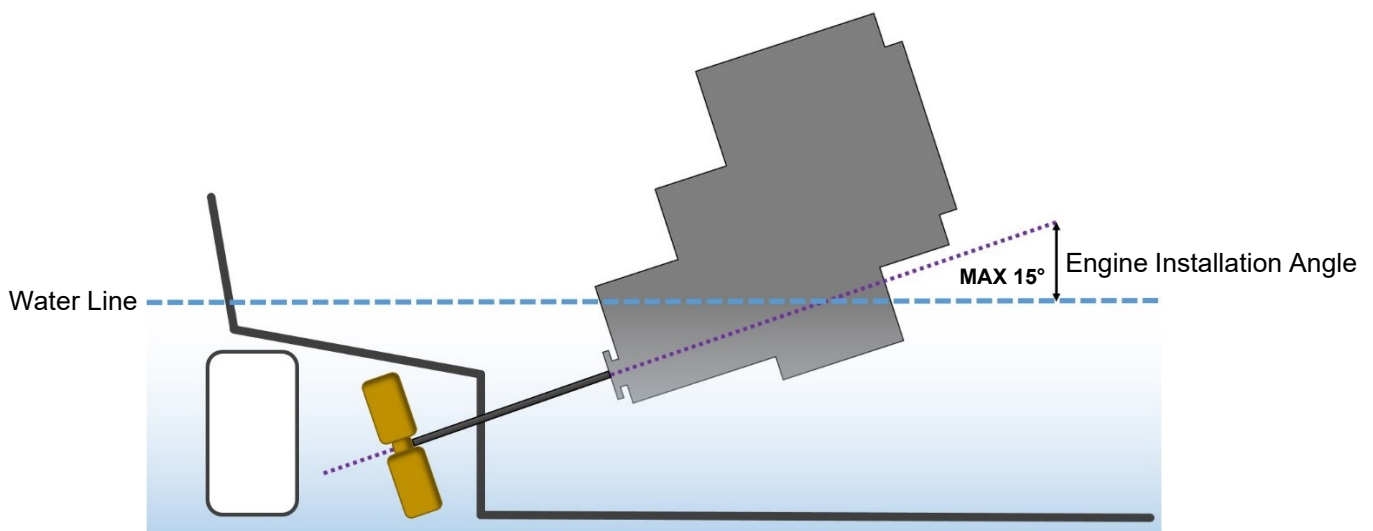

Figure 18: Maximum Engine Installation Angle
- The engine installation angle is the angle of the crankshaft centre to the water line (**Figure 18**).